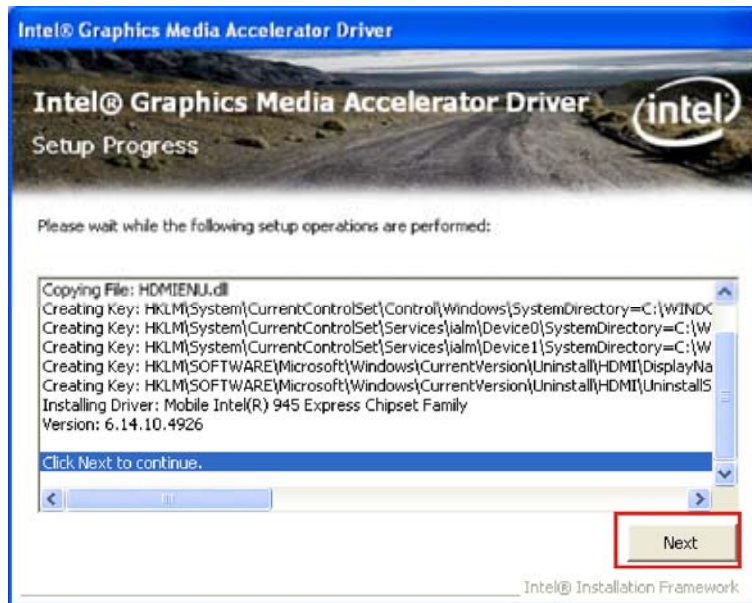

Figure 7-14: VGA Driver Setup Operations
Step 32: **Setup Operations** are performed as shown in **Figure 7-14**.